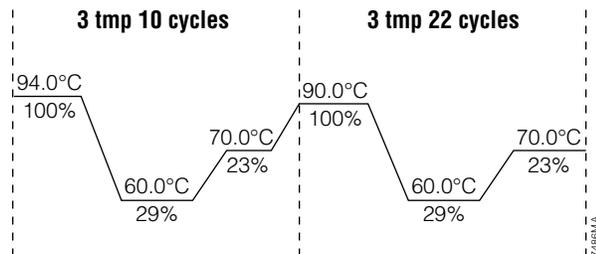

Figure 1. The ramp rates for the GeneAmp® PCR System 9700.
2. Select and run the recommended protocol, which is provided below and in Figure 1.
The ramp rates are set in the 'Ramp Rate Modification' screen. While viewing the cycling program, navigate to the 'Ramp Rate Modification' screen by selecting **More**, and then **Modify**. On the 'Ramp Rate Modification' screen, the default rates for each step are 100%. Figure 1 shows the appropriate ramp rates for the GeneAmp® PCR System 9700. The rate under each hold step is the rate at which the temperature will change to that hold temperature.
The ramp rates are set in the 'Ramp Rate Modification' screen. While viewing the cycling program, navigate to the 'Ramp Rate Modification' screen by selecting **More**, and then **Modify**. On the 'Ramp Rate Modification' screen the default rates for each step are 100%. Figure 1 shows the appropriate ramp rates for the GeneAmp® PCR System 9700 thermal cycler. The rate under each hold step is the rate at which the temperature will change to that hold temperature.